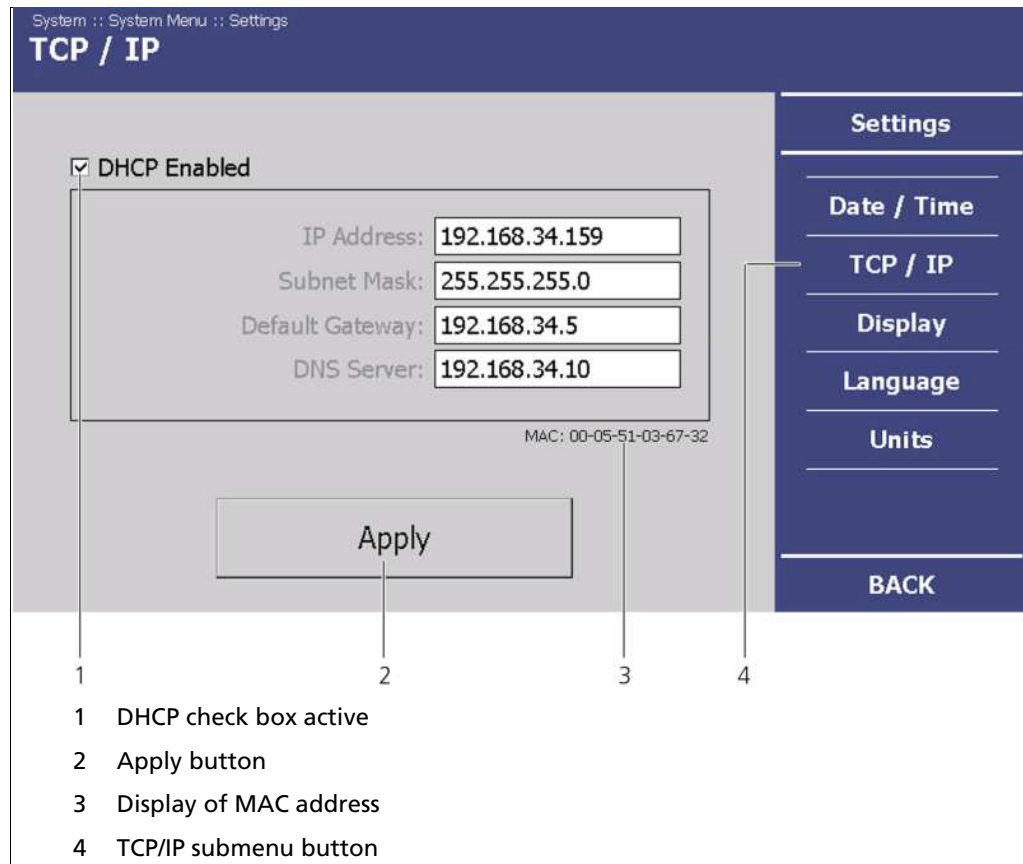

Fig. 27 System Menu, Settings - TCP/IP
On this site, you can also read the MAC address of the device (Fig. 27, Pos. 3).
- If you have not put a tick next to <DHCP active> (Fig. 27, Pos. 1), then check your applied network settings!
In the **System Menu | Settings** click on <TCP/IP> (Fig. 27, Pos. 4), to change the network settings.
You can set the network address either manually or using DHCP (automatic assignment). Put a tick next to <DHCP active> in the check box (Fig. 27, Pos. 1).
1. Click on <Apply>, to adopt the changes (Fig. 27, Pos. 2).
In the **System menu | Settings** click on **<Display>** (Fig. 27, Pos. 4), to make changes to the display or to calibrate the touch display.